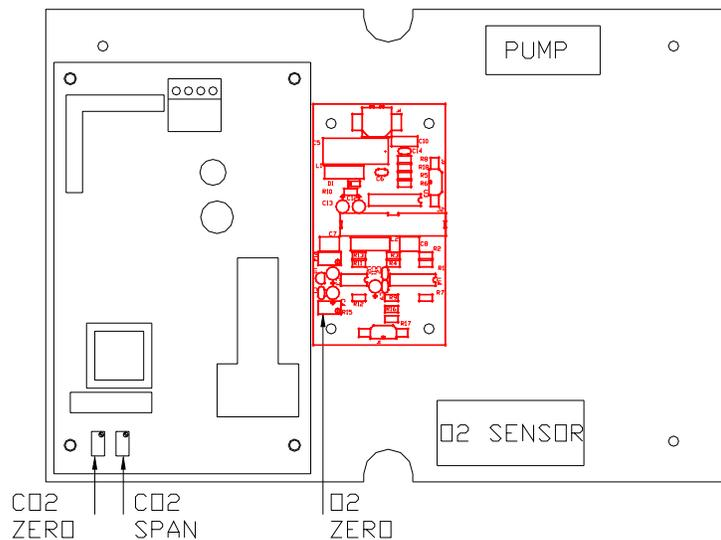

FIGURE 2 – Calibration Adjustments Location
2. Attach the ZERO gas (N₂) to the gas inlet. Adjust the needle valve to provide approx. 1.5 l/min to the instrument and allow the gas to flush a few seconds before checking the reading. If the reading is outside the required specification, open the Meter box, adjust the ZERO potentiometers for both O₂ and CO₂ (The location of the potentiometers is shown in FIGURE 2). Always make adjustments with **ZERO** gas (N₂) **FIRST** and then with span gas (CO₂ / AIR).